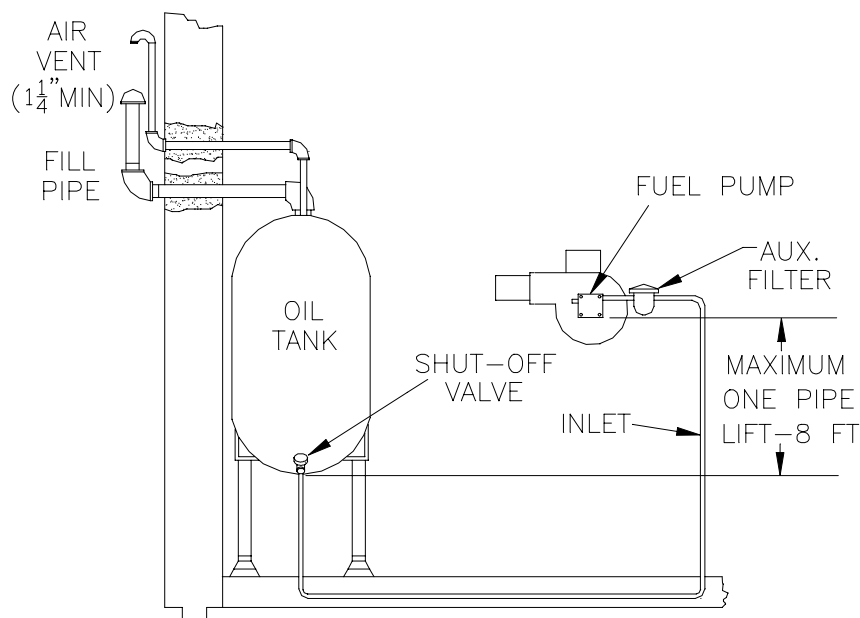

Figure 16: Single-Pipe Installation
2. The single-stage fuel unit may be installed single-pipe with gravity feed or lift. Maximum allowable lift is 8 feet. See Figure 16.
Lift "H" (See Fig. 16)	Maximum Length of Tubing "H" + "R" (See Figure 16)